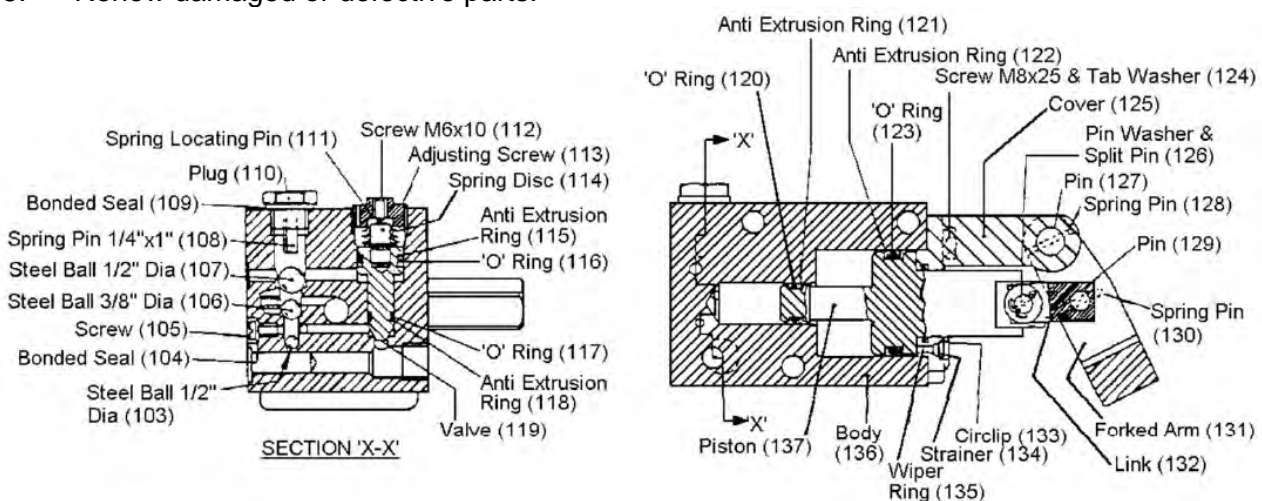

Figure 2: Hand Pump
1. Remove the hand pump as follows: (see Figure 2).
2. Dismantle the pump as follows: (see Figure 2).
- 6.4 The six relief valve disc springs (114) should be stacked as shown in Figure 2.